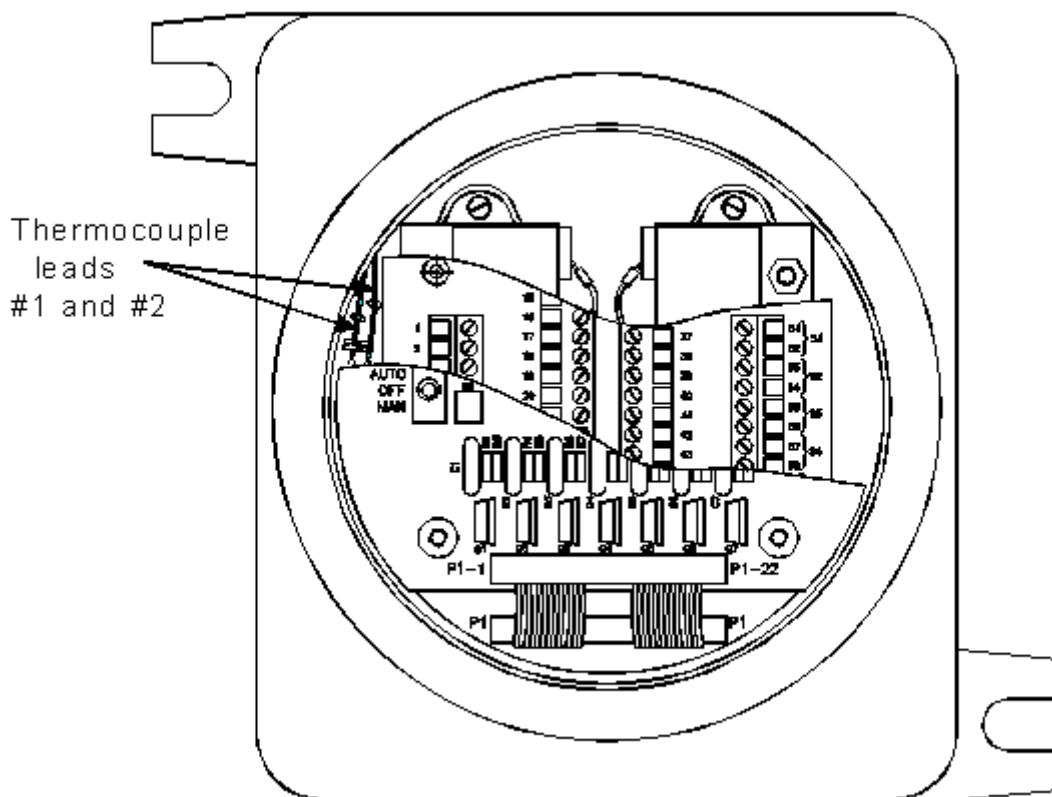

Figure 5-5. Thermocouple Leads in Lower Explosion-Proof Housing
4. Locate the two Type J thermocouples. They are in the left side of the housing and are marked #1 (Detector) and #2 (Heater Block). (See Figure 5-5.)